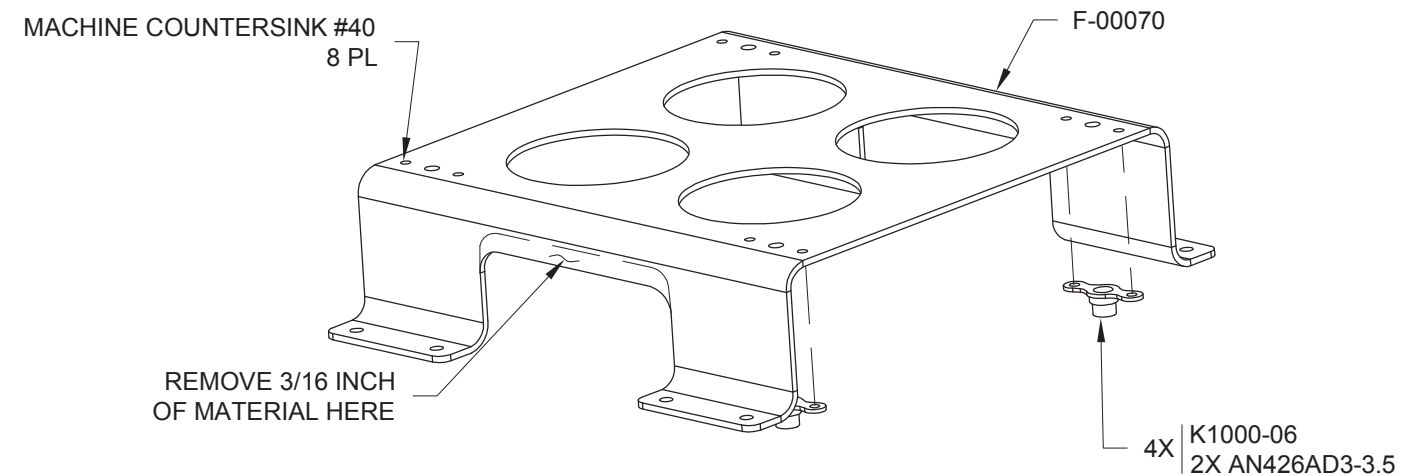

FIGURE 2: RIVETING NUTPLATES TO THE GDL 39R BRACKET
Step 5: Machine countersink the upper face of the bracket to accept the head of an AN426AD3 rivet. See Figure 2.
Step 6: Install nutplates to the bottom face of the bracket. See Figure 2.
Step 7: Remove material from the bracket where indicated in Figure 2.